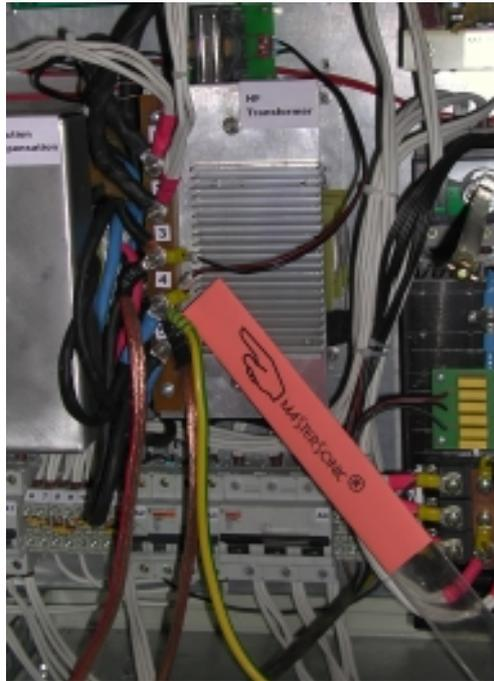

fig. 8.5. High frequency terminal block
- Connect the Isolated terminal (normally red Black or White)wire to terminal 3- HV on the high frequency terminal block located on the HF transformer. See fig. 8.5.